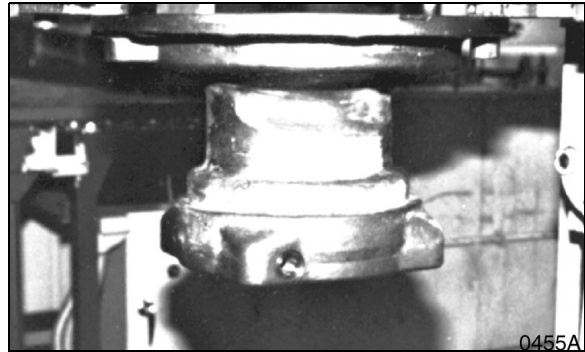

Figure 25
1. Position motor casing face down (Figure 25).